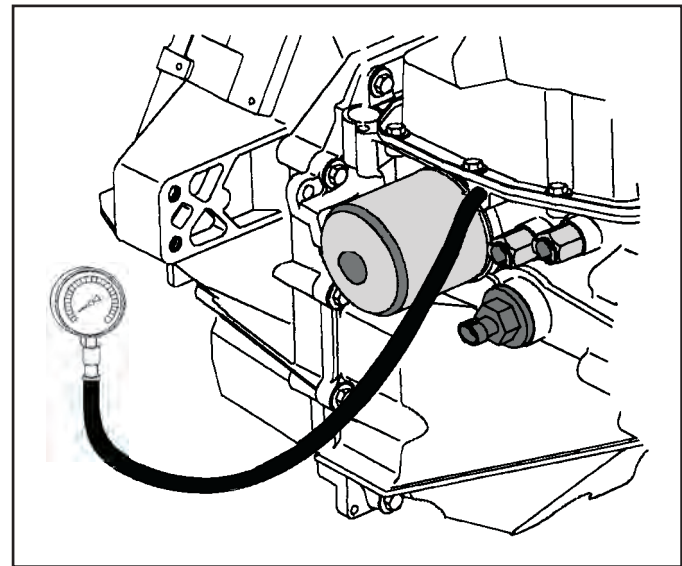

Figure 15
3. Attach a 300lb pressure gauge to the same port (See Figure 15).